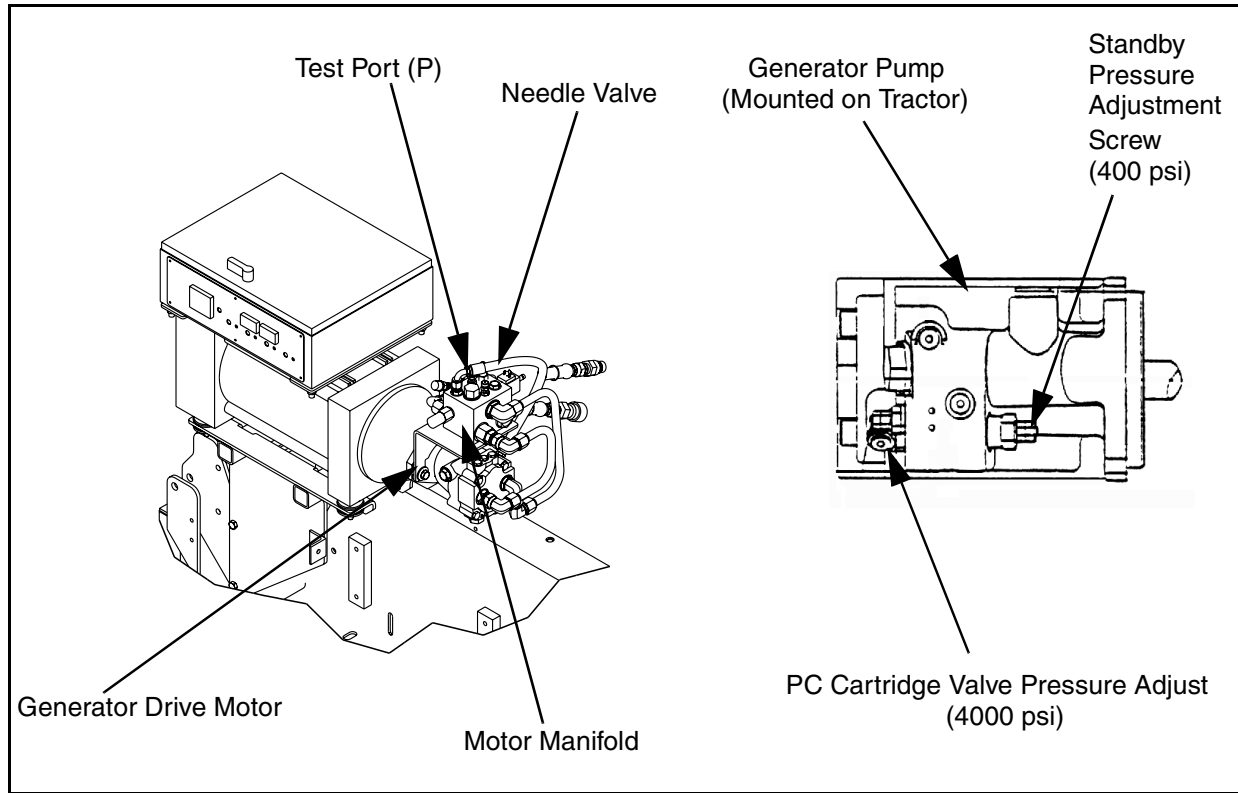

Figure 38 Generator Hydraulic Pump Assembly - VersaScreed 10
This hydraulic pump circuit has three valves which require adjustment: the needle valve (located on the drive motor manifold), the pump standby pressure adjustment screw and the maximum pressure valves, both located on the pump (Figure 38).
- 1) Install 6000 psi gauge on test port (P) of generator drive motor manifold (Figure 38).